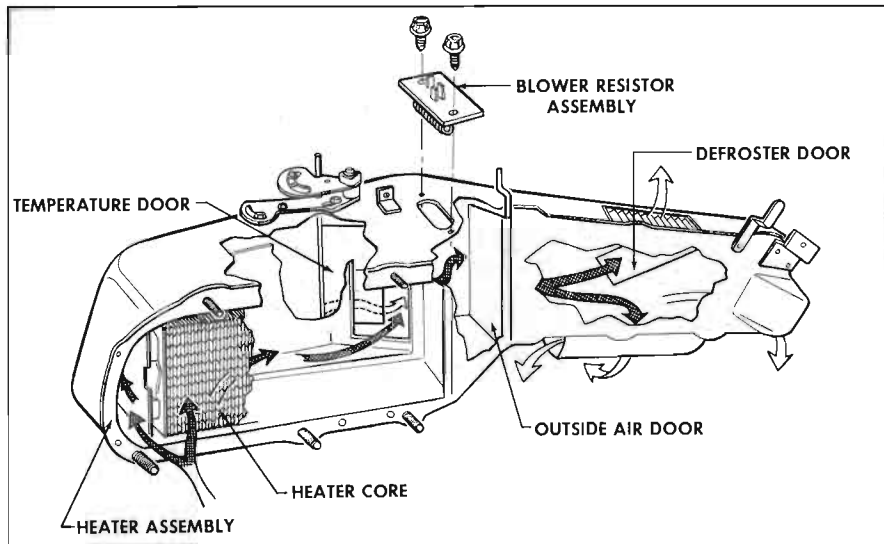

Figure 12-3—Heater Assembly
2. Heater Assembly—The heater assembly (see Figure 12-3) houses the heater core and the doors necessary to control mixing and channeling of the air. Air entering the heater assembly divides into two channels: (1) through the heater core and (2) through a by-pass around the heater core. The ratio of the mixture of heated to unheated air
6. Remove connector from blower resistor assembly (see Figure 12-3).